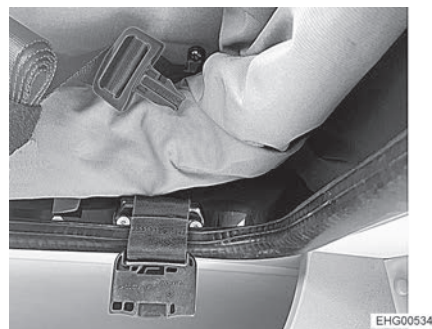

Fig. 56 Belt lock, open
- Close and tighten both belt locks (Fig. 56).